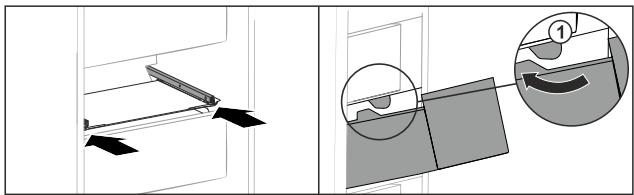

Fig. 146
- ▶ Guide drawer around the stoppers Fig. 146 (1).